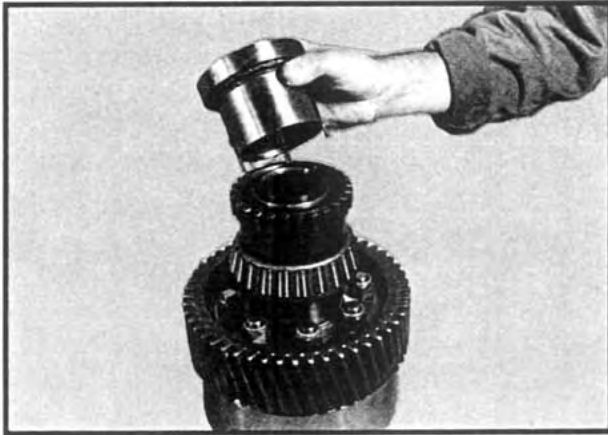

Fig 45
2. Place the large gear into position on the front differential case half. It may be desirable to heat the gear slightly. Allow the gear to cool completely, and install the (8) gear retaining lock nuts. Torque to specification. Heat and install the front bearing cone assembly against the shoulder on the case.
3. slide the clutch gear into place against the bearing cone. Install the clutch gear retaining locknut using Fabco Tool 866-0368 or equivalent. See Figure 45. Torque to specification.